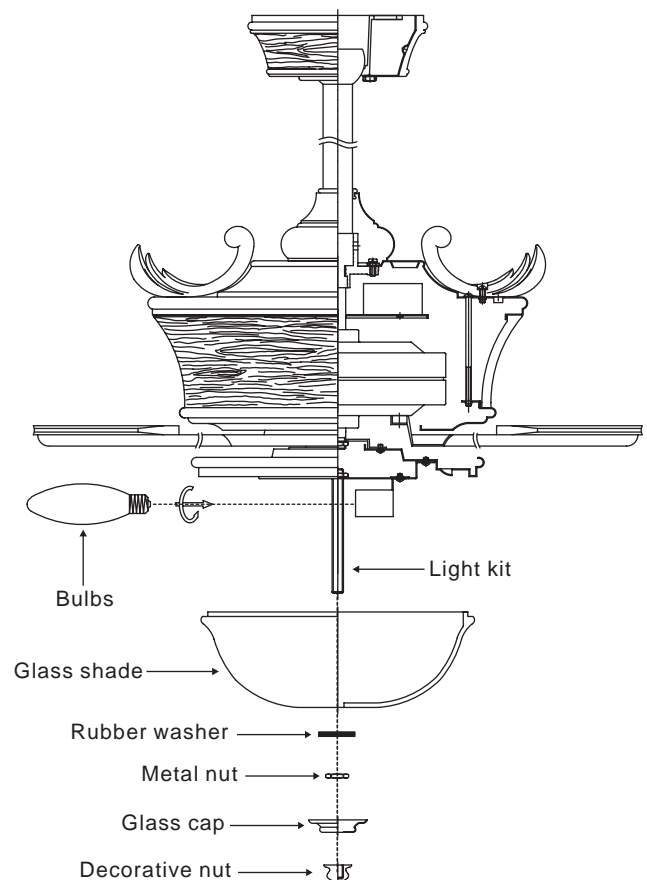

Figure 17
1. Install 3 x 40w candelabra bulbs (not included). (Fig. 17)
2. Place glass shade over the light kit stem, secure with the rubber washer, metal nut, glass cap and decorative nut. Do not overtighten (Fig. 17)